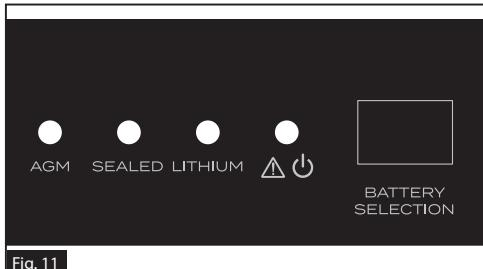

Fig. 11
8. Press the BATTERY SELECTION button to select the correct battery type. (Figure 11)
9. Verify that system is operational, e.g. the charge LED is blinking or solid green light. (Figure 11)